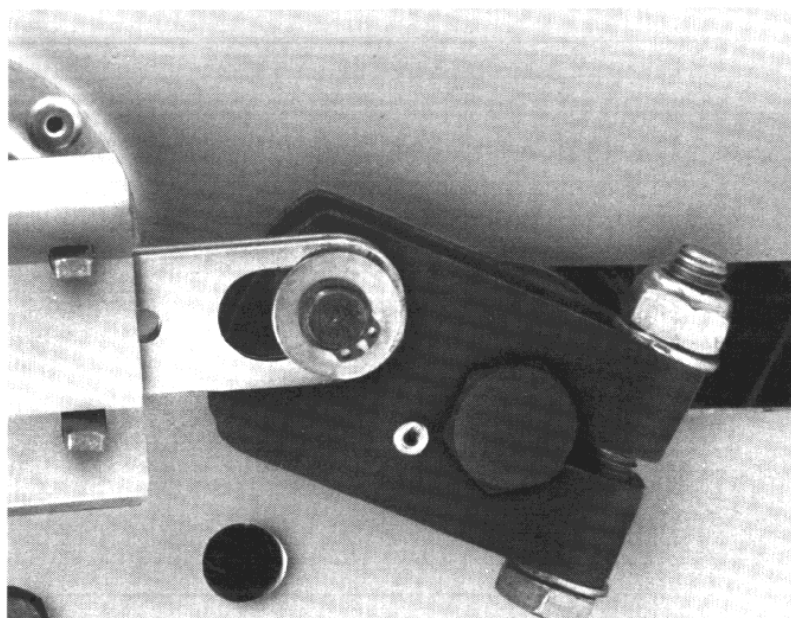

Figure 7: Lubrication — Spring Guides
- Step 2.** Lubricate the opening and closing spring guides (figure 7) with molybdenum disulfide grease.